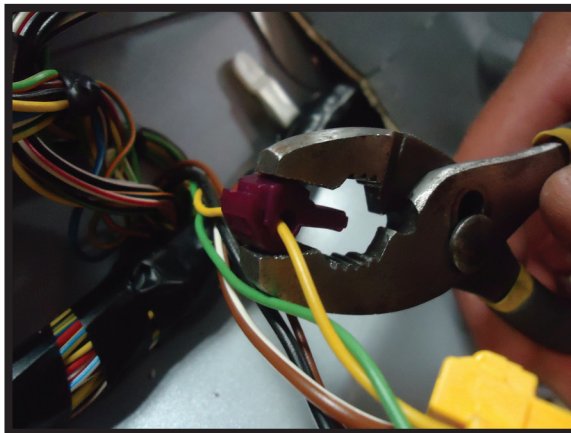

FIGURE 30
6. INSTALL THE FOUR (4) CONNECTOR SPLICE TO MALE SPADE TERMINALS ONTO THE WIRES USING THE DIAGRAM PROVIDED. (FIGURES 30, 31)